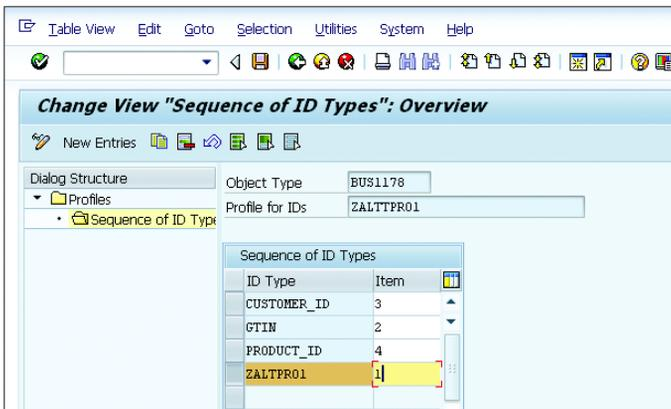

Figure 4.25 Sequence of ID Types
- In the detailed view (order of ID types), you can specify which ID types are used in what order when searching with an ID profile. These can be ID types delivered by SAP or customer-defined ID types. Access CROSS-APPLICATION COMPONENTS • SAP PRODUCT • ALTERNATIVE PRODUCT IDS • DEFINE PROFILES. Within this configuration, you can list the product search sequence in an order based on your business needs. Figure 4.25 shows the configuration where the ID type sequence is maintained, which provides the functionality to search the product with different options (i.e., product search via GTIN, CUSTOMER_ID, PRODUCT_ID, and custom search ZALTPR01).